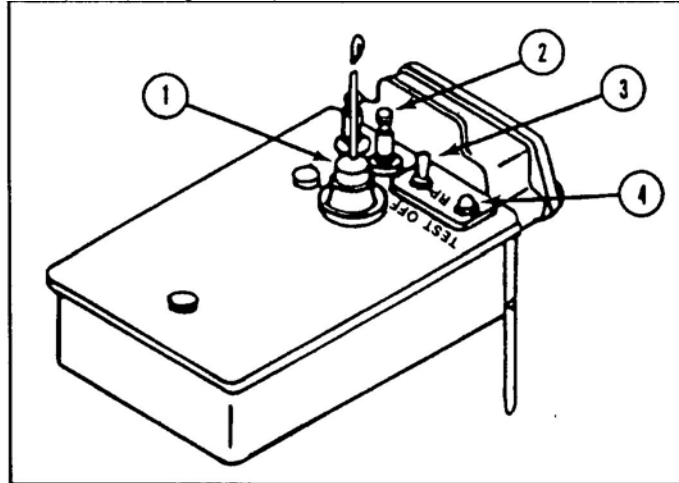

Figure 10. Detector controls.
b. Detector (Figure 10).
(1) The antenna post (1, Figure 10) allows connection of the antenna to the detector.
(2) The data terminal posts (2, Figure 10) provide for connection of wire pairs to the wire link.
(3) The RF-OFF-W switch (3, Figure 10) has three positions.
(4) The TEST button (4, Figure 10) allows a check of the transmitter element of the detector.